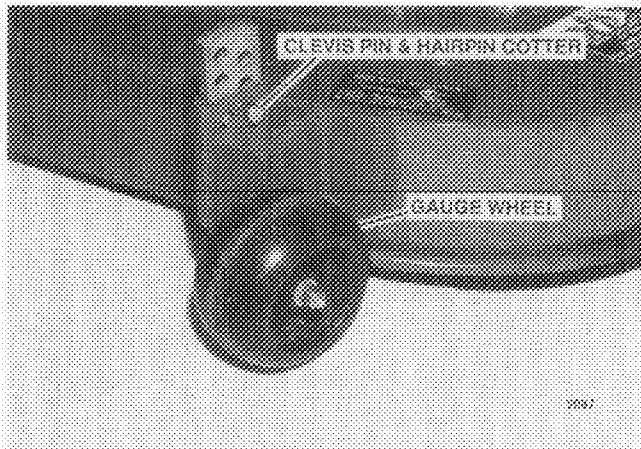

FIG. 12 Gauge Wheel Adjustment (60" Mower Only)
1. Remove hairpin cotter and clevis pin securing gauge wheel to cutting deck (Fig. 12).